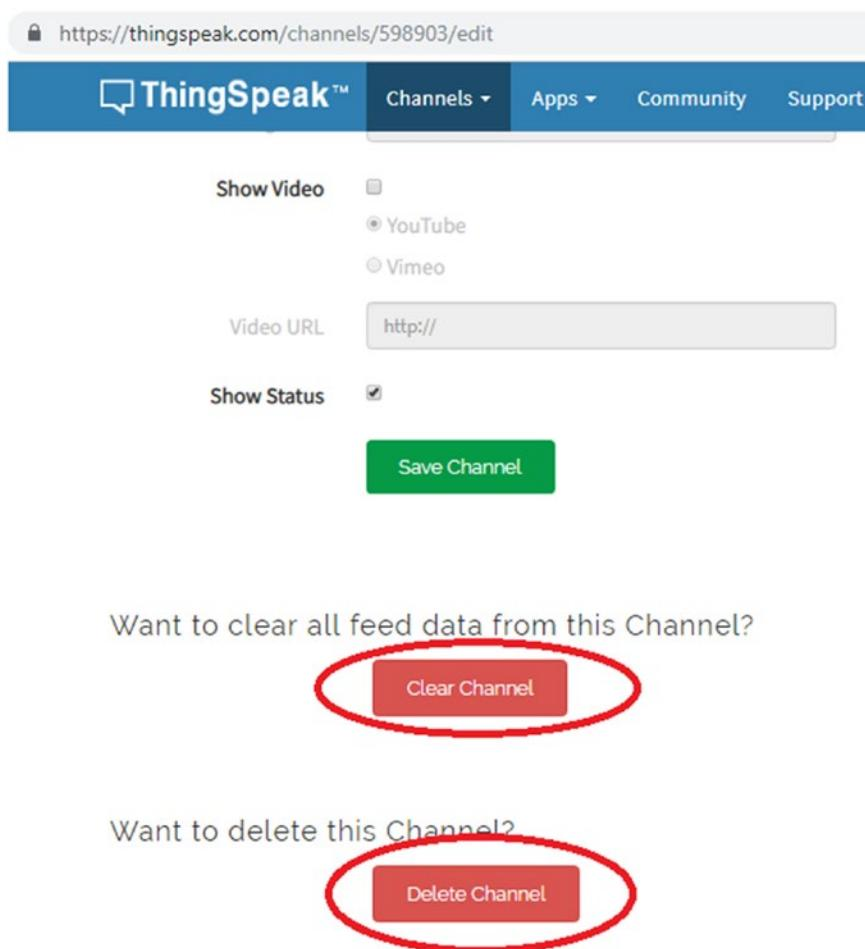

Figure 6-7. Clearing all the feed data from a channel and deleting a channel
- The entry ID is a unique identification number for updating a channel feed. If you want to reset the entry counter, you can do it by clearing all the feed data from the channel. To clear all the data feed from a channel, click the Channel Settings tab and then scroll down the page and click the Clear Channel button. To delete a channel, click the Delete Channel button (Figure 6-7).